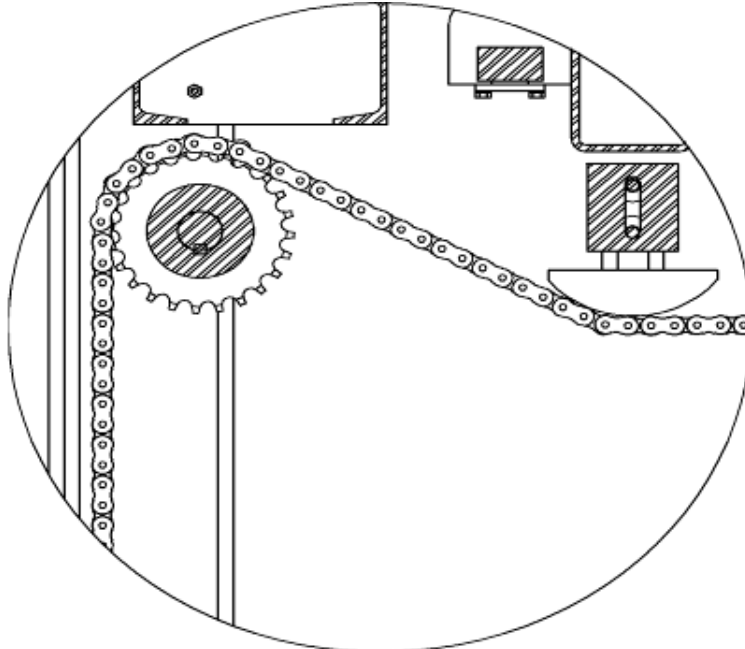

Figure 20A Routing Chain Beneath Spring Tensioner – Outer Chain
- Route the chains beneath the tensioners as shown in **Figure 20A** while bringing the ends of the chain halves together near the center of the chain path. Remove as many links as possible to maximize tension in the chain – while making sure that Inside and Outside chain paths have an equal number of links between the sprockets.